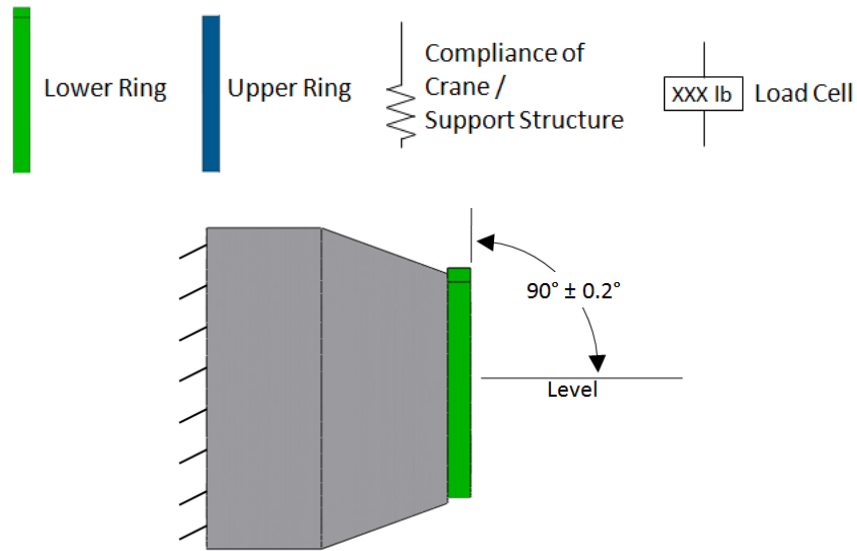

Figure 40: Verify Lower Ring is leveled prior to mating SV.
12.1.2	The Lower Ring, mounted to the LV, shall be perpendicular to level within $\pm 0.2^\circ$. See Figure 40.